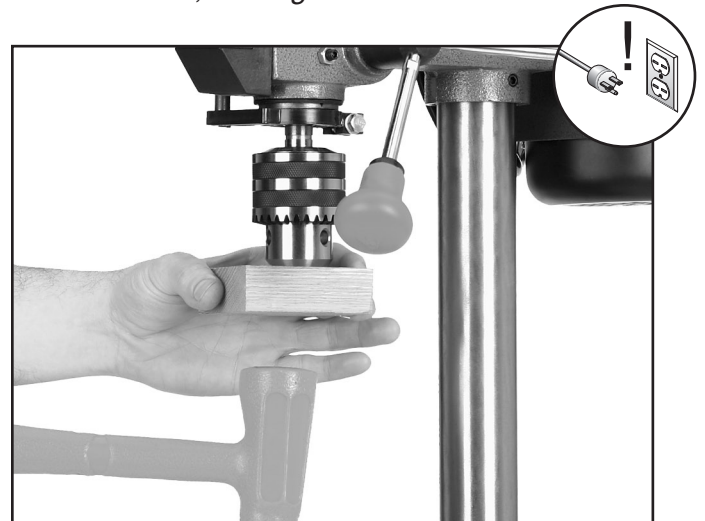

Figure 13. Chuck being seated on the arbor.
4. Push the chuck onto the arbor, and using a wood block and hammer or mallet as shown in **Figure 13**, hit the chuck ONCE with moderate force to secure it on the arbor.